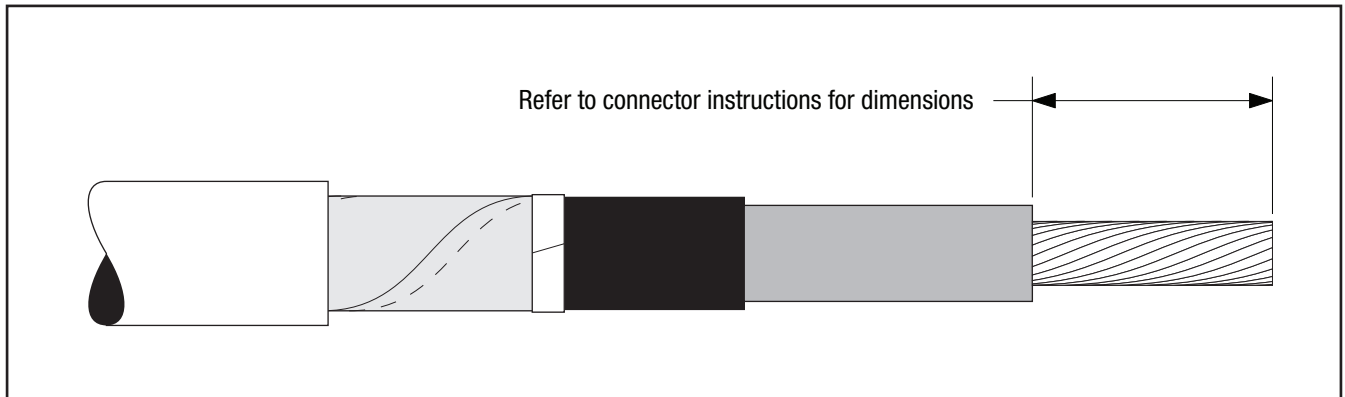

Figure 4
- 3.1** If using a 3M Shearbolt Connector QCI 500-1000, refer to the instructions included with the connector for insulation cut-back dimension. Insulation removal length shall not exceed 3 3/4" (95 mm) from conductor end (Figure 4).